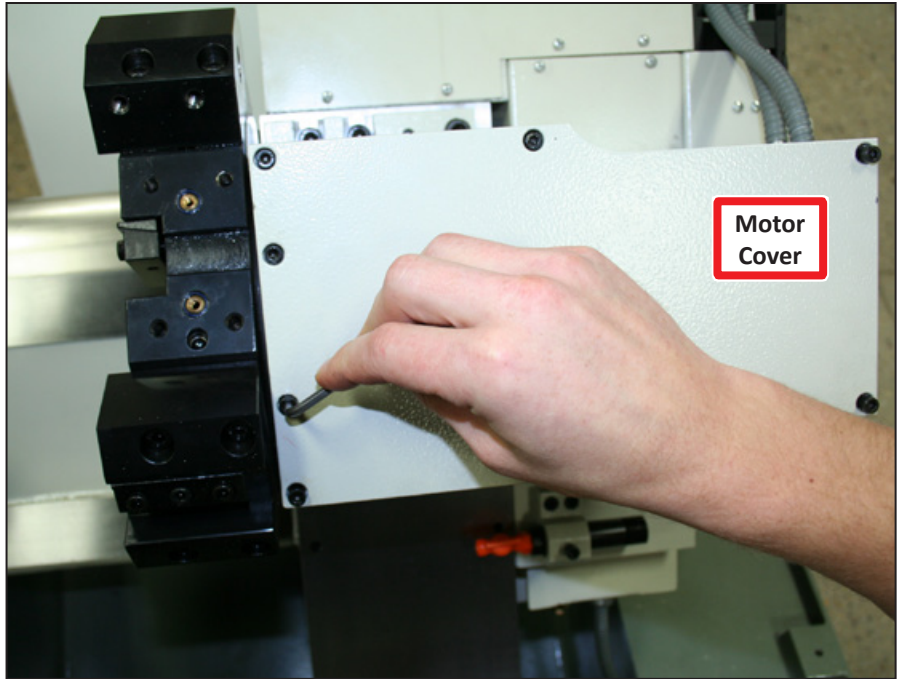
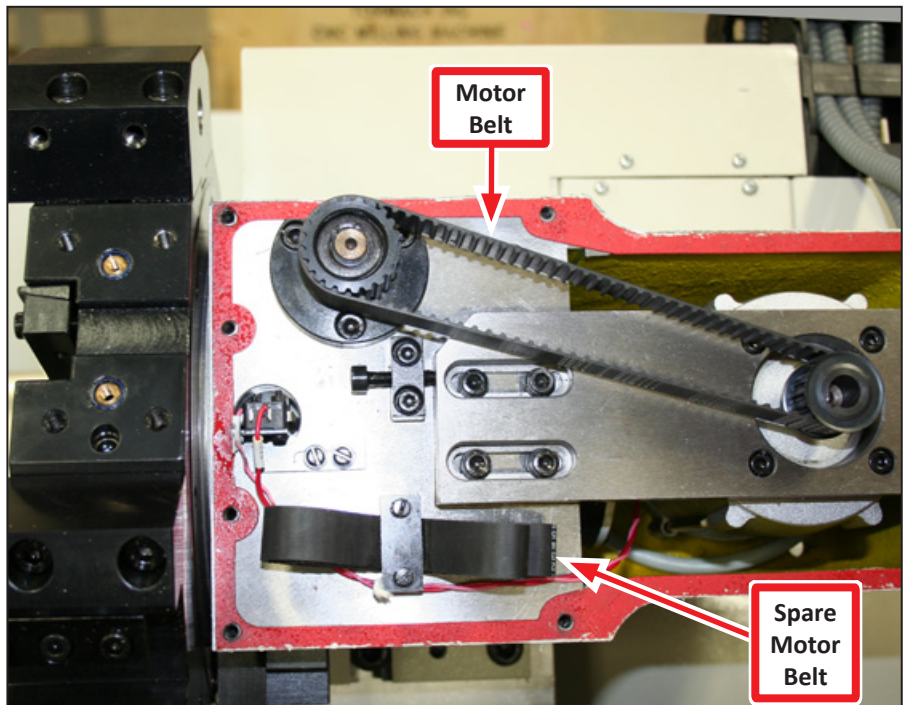

Figure 41
Figure 42
2. Remove eight socket head cap screws to remove the motor cover from turret (see **Figure 41** and **Figure 42**); remove cover.
3. Pull on the Motor Belt in a clockwise direction to rotate turret motor until turret is in a fully-locked position (see **Figure 42**).
NOTE: Spare Motor Belt located under Motor Cover (see **Figure 42**).